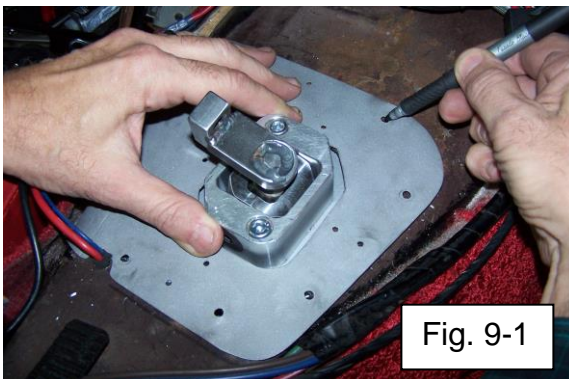

Fig. 9-1
- a. Place shifter opening patch panel BMG-03002 or BMG-03102 over T56 Magnum shifter with the opening centered around the shifter tower. Adjust bend of panel if needed to conform to tunnel shape on driver side. Using a marking pen, draw outline of the patch panel and mark the (4) 1/8" dia pop rivet holes around the outer edge and the (8) 3/16" dia mounting holes plus the (3) 1/8" dia holes around the edge of the shift tower opening for drilling. See Fig 9-1.
- b. Using a marking pen, draw outline of the patch panel and mark the (8) $\frac{3}{16}$ " dia holes plus (3) $\frac{1}{8}$ " dia holes around the edge of the shift tower opening for drilling. See Fig 9-1.